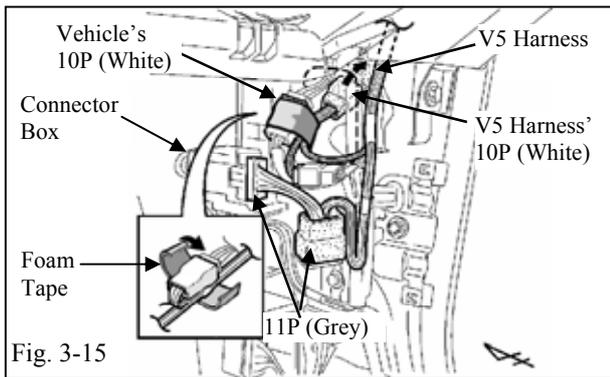

Fig. 3-15
- (t) Plug in the V5 10P connectors between the vehicle inner 10P connectors. (Fig. 3-15)
- (1) Both the inner and outer white 10P connectors fit the V5 harness. Use the inner white connector.
- (u) Insert V5 grey 11P connectors between the vehicle grey 11P connector and the connector block. (Fig. 3-15)
- (v) Place the inner white 10P connectors in the concave spot of the cowl area. (Fig. 3-15)
- (w) Reconnect the vehicle outer 10P connector and secure to the vehicle harness using 1 small Foam Tape. (Fig. 3-15)